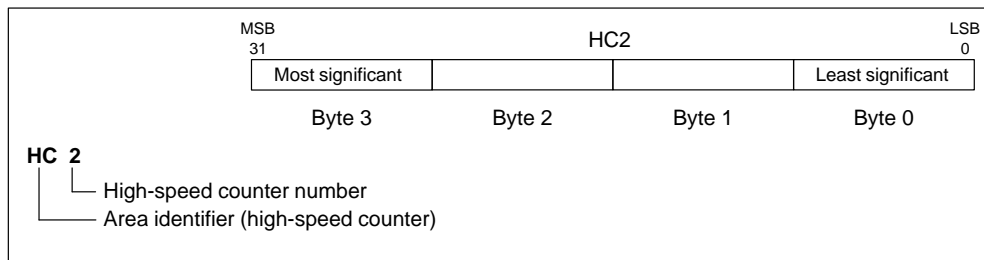

Figure 10-15 Accessing the High-Speed Counter Current Values
**Addressing the High-Speed Counters (HC)**
To access the count value for the high-speed counter, you specify the address of the high-speed counter, using the memory type (HC) and the counter number (such as HC0). The current value of the high-speed counter is a read-only value and can be addressed only as a double word (32 bits), as shown in Figure 10-15.